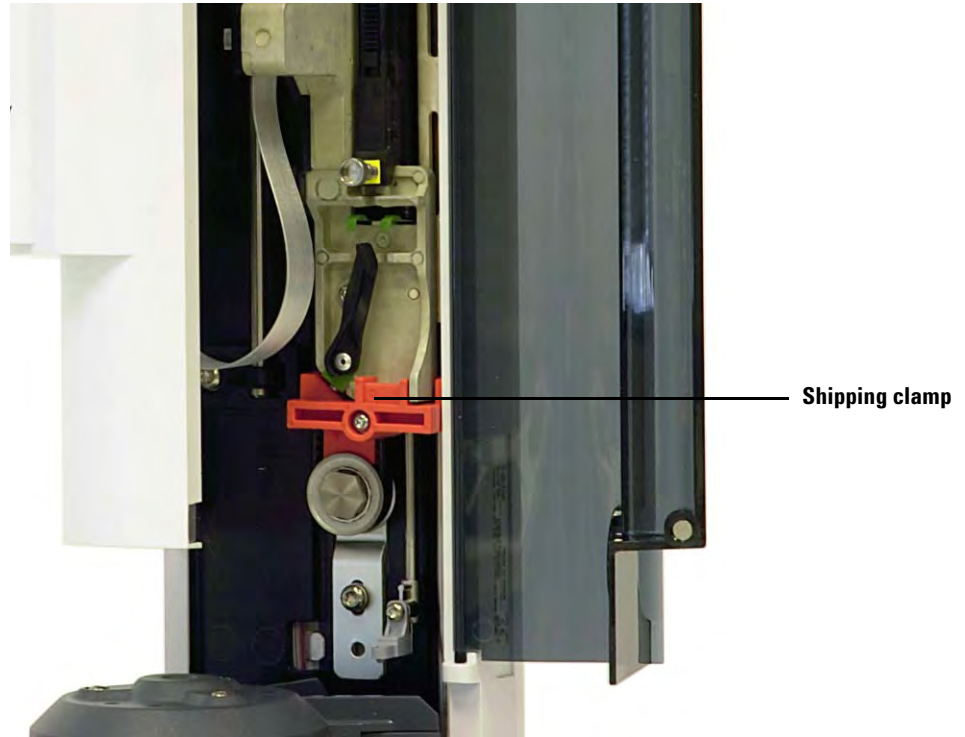
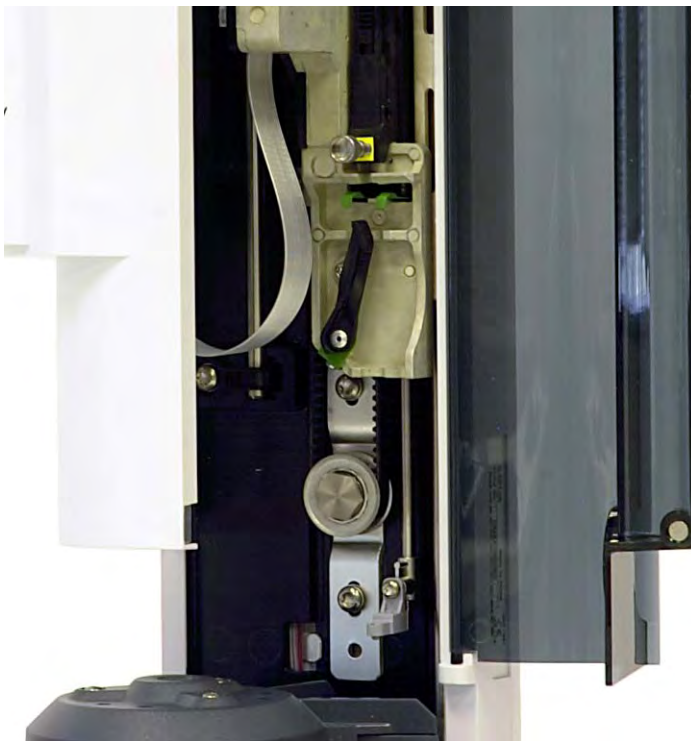

Figure 8 Shipping clamp installed.
Figure 9 Shipping clamp removed.
- Using a T-10 Torx driver, completely loosen the T-10 screw and remove the shipping clamp from the syringe carriage (Figure 8 and Figure 9).